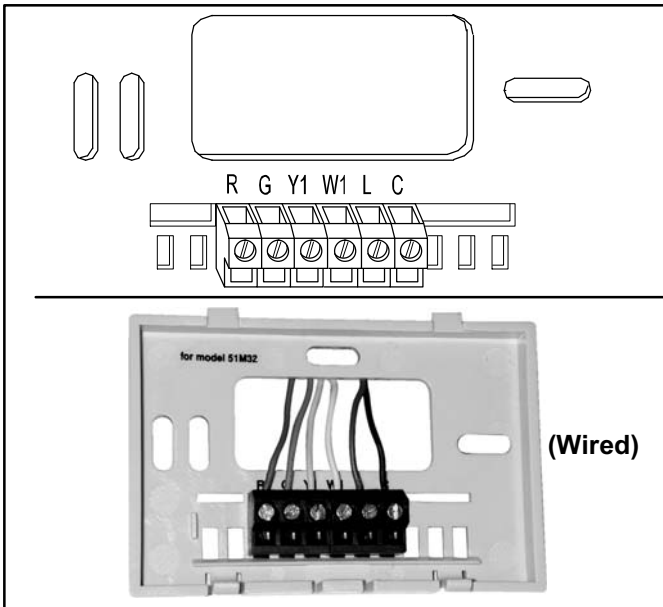

Figure 1. L3011C Terminal Strip
- L3011C - See table 1 and figure 1.